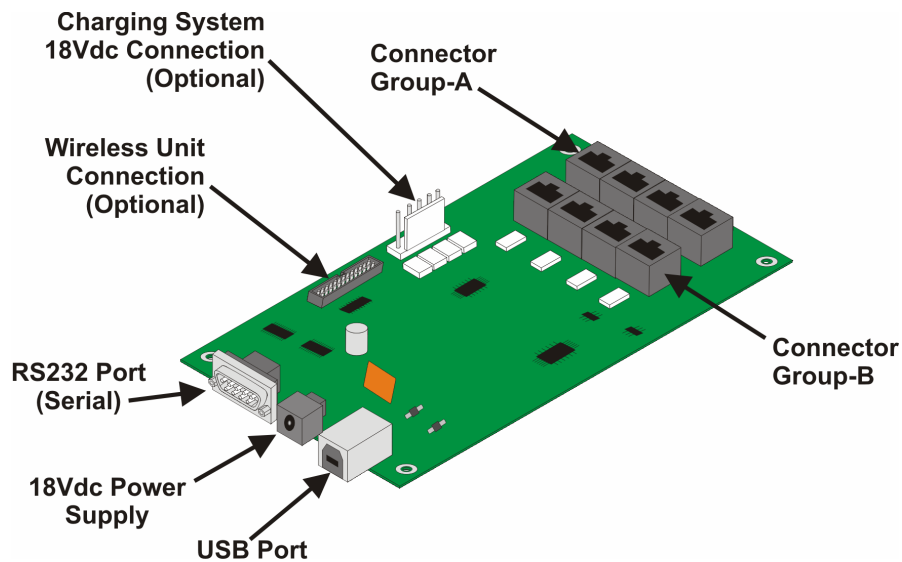

Figure 2-11. SML Interface Module – Printed Circuit Board Assembly (PCBA)
- 2.8.1 The SML Interface Module PCBA is a circuit card connecting the inter-connect the SML Wheel Units to SML Software, installed on a computer. Refer to Figure 2-11, as necessary.